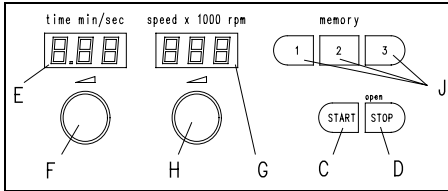

Fig.13
The GRINDOMIX GM 200 has three memory buttons **J**, which can be used to save parameter combinations of time and speed. **Fig.13**
- Press the corresponding memory button **J**, **Fig.13**, briefly. The saved parameters then appear on displays **E** and **G**.